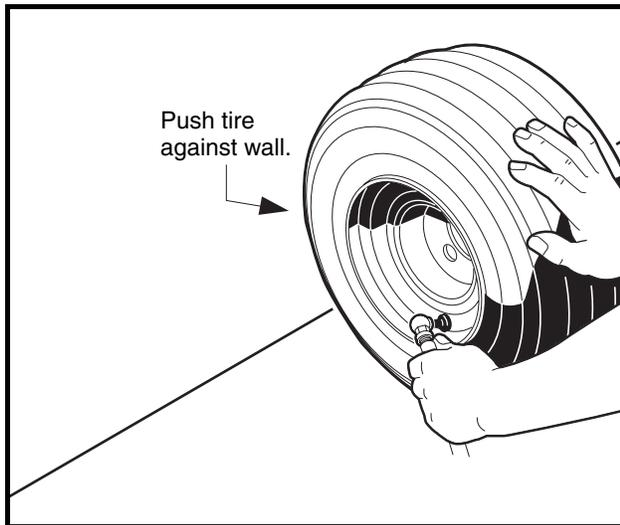

Figure 8-2 Inflate Tire
6. Place the tire and wheel assembly against a wall in an upright position and push it against the wall while inflating the tire to 30-34 psi (2.07-2.34 Bars). The three-point contact (wall, floor, and hand) will help ensure that beads snap into place and form a proper seal as the tire is inflated (**Figure 8-2, Page 8-4**). **See following WARNING.**